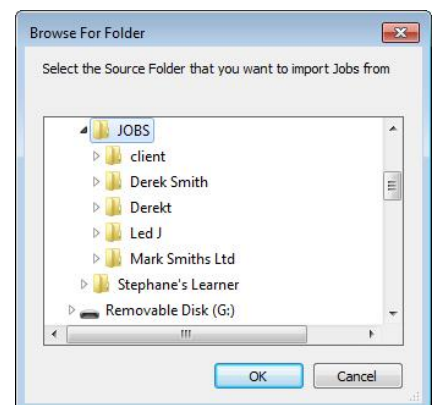

Figure 3.4 Browse for Folder screen
3. The **Browse For Folder** screen (Figure 3.4) will appear. Navigate to your removable storage device and select the **JOBS** folder, where your surveys data are located.